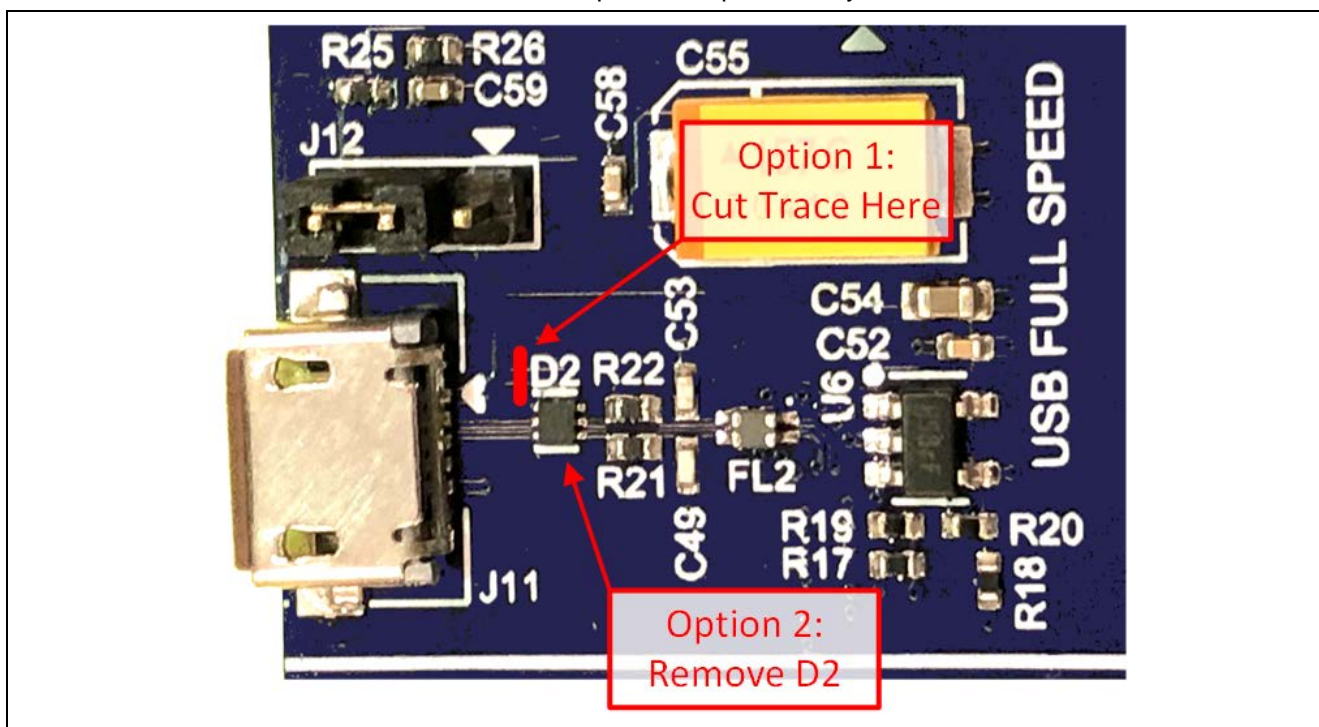

Figure 4. USB Full Speed Rework Locations
1. (Recommended) Cut the +5V trace between D2 pin 6 and the rest of the USB Full Speed +5V trace. Cut the trace at the location indicated by the arrow in Figure 4. The trace is located next to the D2 reference designator on the top side of the circuit board.